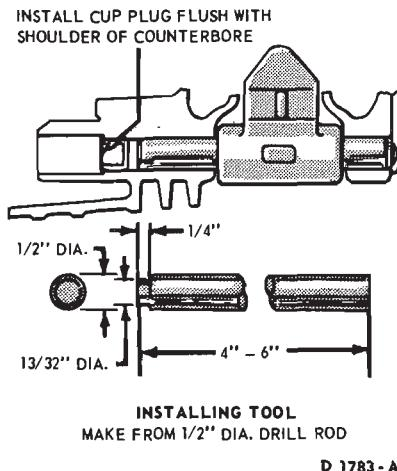

FIG. 35—Servo Apply Lever Installation
1. Working from inside of the transmission case, carefully drive on the servo apply lever shaft to remove the cup plug. The shaft (Fig. 35) can be withdrawn from the case by hand.
3. Using the fabricated tool shown in Fig. 35, drive the cup plug into position in the case. Be sure the plug is flush with the shoulder of the counterbore. The cup plug may be coated with Loctite, Part No. C3AZ-19554-A, before installation.